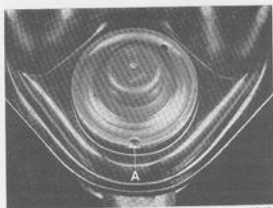
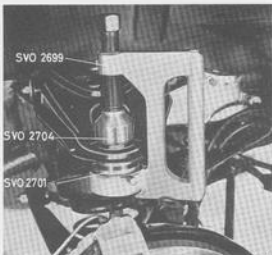

Fig. 6-24. Location of upper ball joint
Fig. 6-25. Fitting the upper ball joint
1. Before fitting the ball joint, check that the rubber cover is filled with grease. Bend the pin end over the slot, see Fig. 6-24. Check that the grease forces its way out. If necessary top up with multipurpose grease.
2. Press the ball joint into the control arm with press tool 2699, sleeve 2701 and drift 2704, see Fig. 6-25. Make sure that the ball joint recess comes in line with the longitudinal shaft of the control arm (within $\pm 8^\circ$) either externally or internally, see Fig. 6-24, as the pin has maximum movement along this line. Should the ball joint be incorrectly fitted when being pressed in, turn the tool 2699 half a turn and then press the ball joint into the correct position.